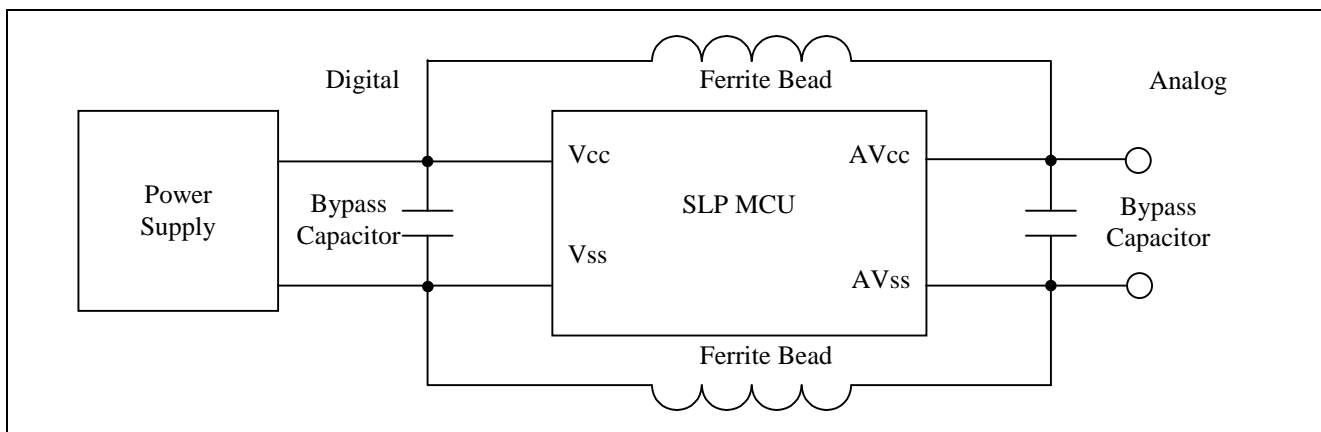

Figure 5 Split Supplies
- A simple method for controlling noise is to have separate supplies for the (i) slower low-current analog functions and (ii) faster medium-power digital functions as shown in figure 5. The ferrite beads together with the bypass capacitors form a low-pass filter network, reducing the high-frequency noise. It resists varying current and also provides a low-impedance AC short to ground on either side.